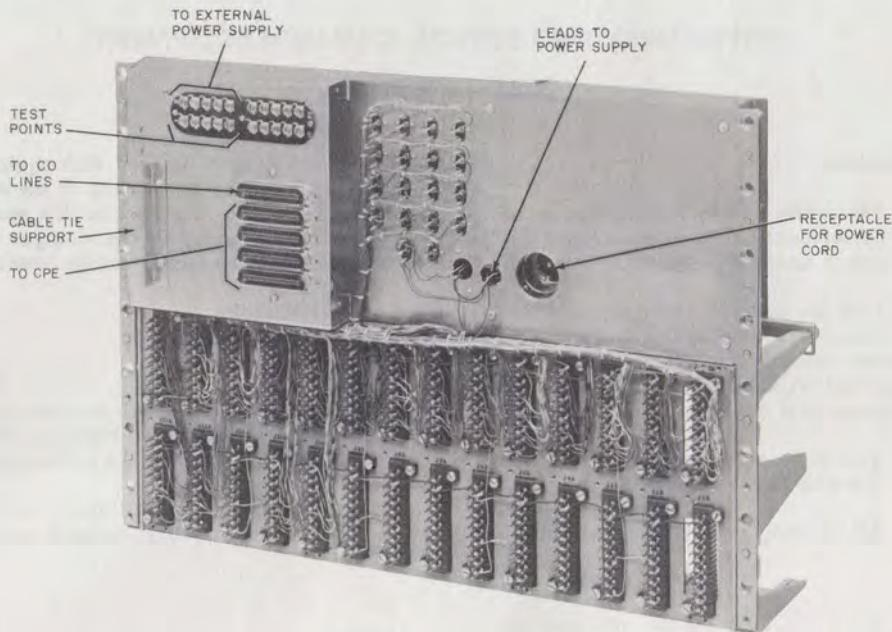

Fig. 2—604A2 Panel (Rear View)
**4.02** Refer to Fig. 2 and 7 for connections to CO lines and to CPE.